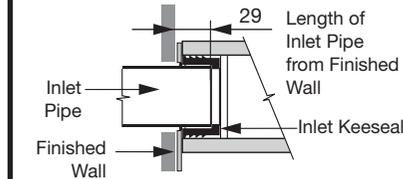

Fig. 4
- 4 - Set the inlet pipe to 29mm from the finished wall, as detailed in **Fig. 4**.